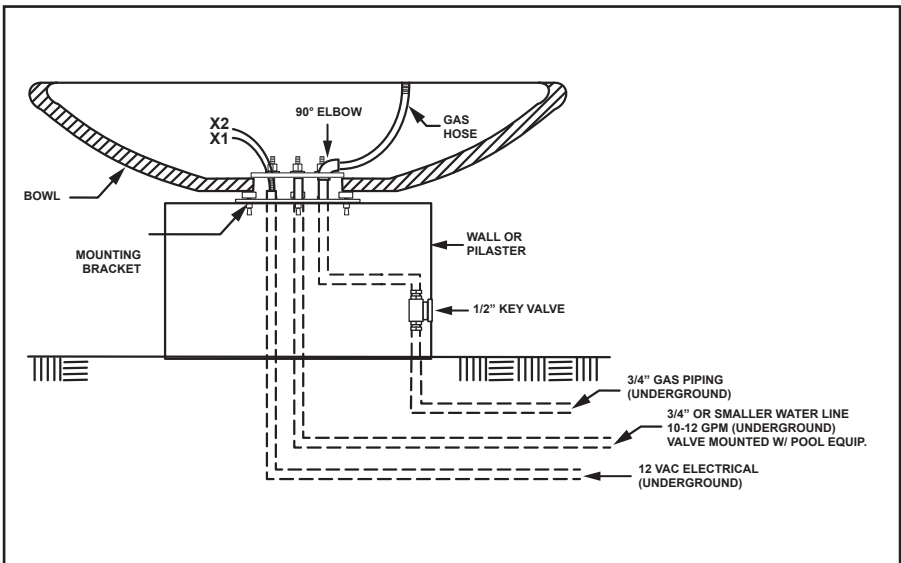

Figure 7. Mounting
1. Attach the mounting bracket to the surface/floor. See Figure 7.
Note: The gas and electrical connection at each bowl must be located at the center of each bowl. The connections must be installed as shown in Figure 7.
10. Install the mounting bracket as shown in Figure 7.
- b. Install the clamp ring onto the three (3) securing bolts and fasten to the bottom of the bowl using a nut and washer on each securing bolt.
12. Install 90° pipe elbow and gas hose at the gas connection as shown in Figure 7.
Important: The mounting bracket must be installed for proper cooling of the burner assembly. Warranty may be voided if the mounting bracket is not installed. Do not kink or make sharp radius on the metal gas hose. Do not come straight up with the gas hose. As shown in Figure 7, a 90° gas pipe elbow must be installed on the gas line for proper installation of the gas hose. The product warranty may be voided if it is not installed with an elbow as shown in Figure 7.
1. The height of the flame can be adjusted at each burner by opening or closing the $\frac{1}{2}$ " gas valve or keyed valve located on each column as shown in Figure 7.